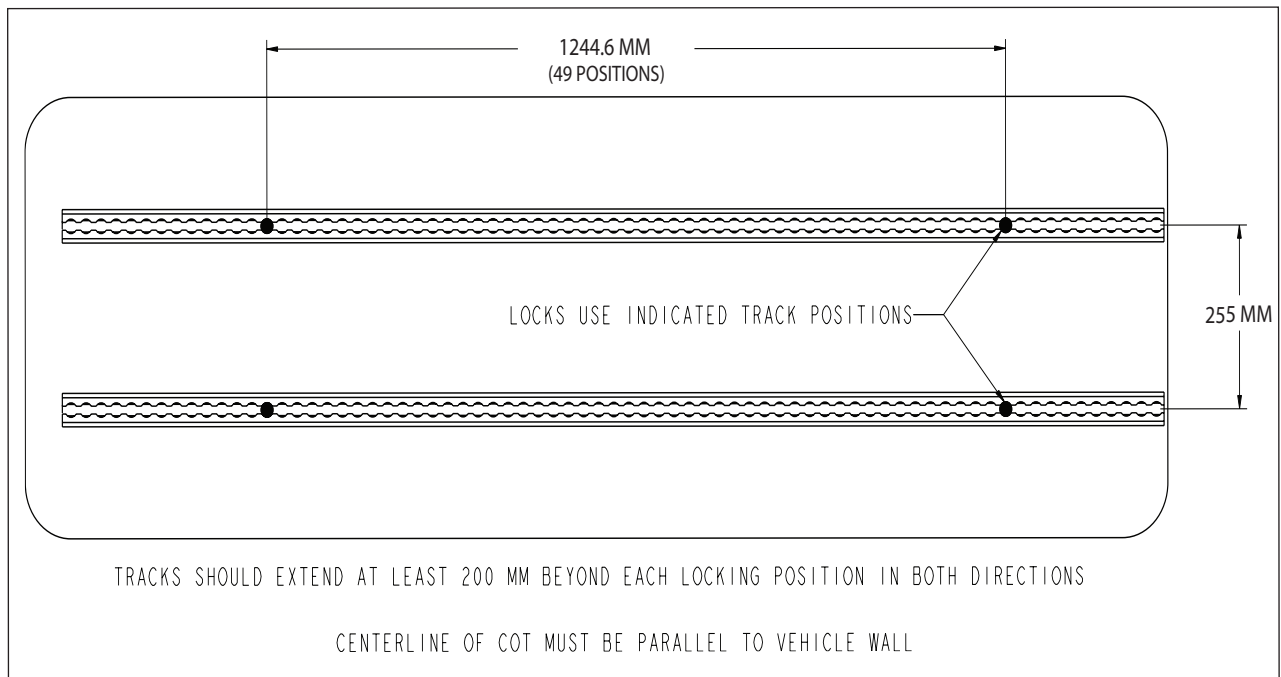
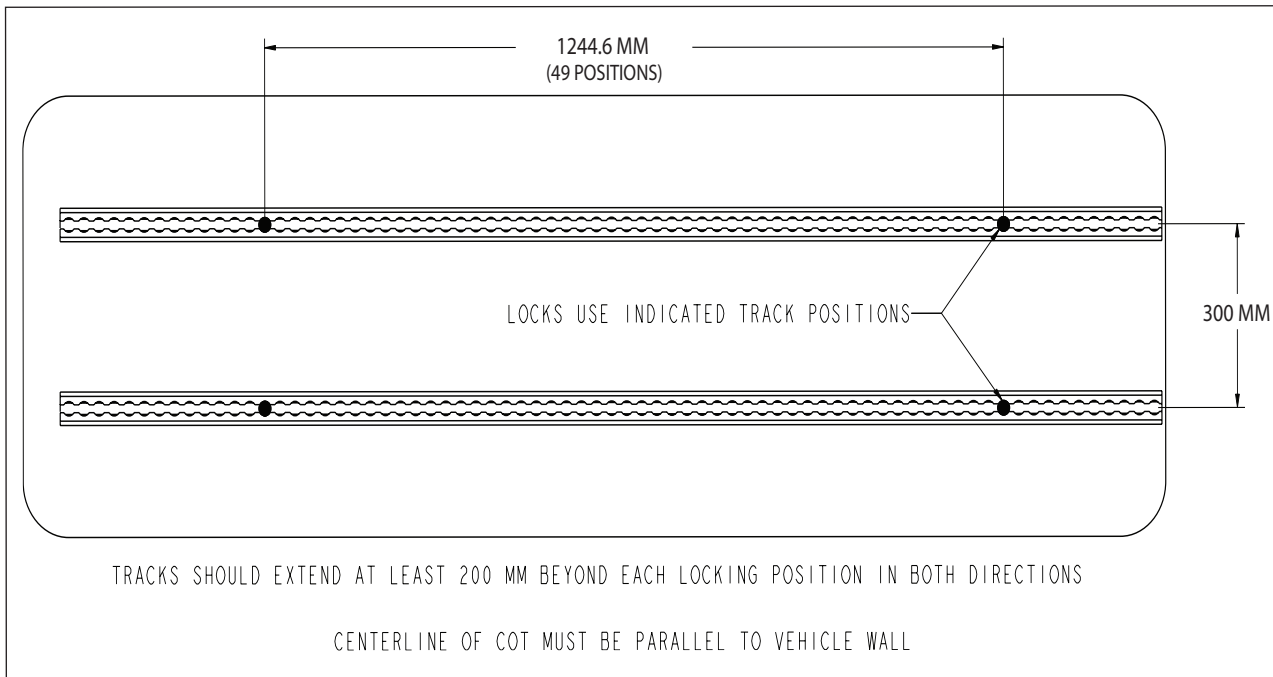

Figure 12: Floor Track Installation Locations
Figure 13: Floor Track Installation Locations
1. Identify the location for the foot end fastener and head end fastener from Figure 12 on page 17 for Model 6386 and Figure 13 on page 18 for Model 6387.
1. Identify the location for the foot end fastener and head end fastener from Figure 12 on page 17 for Model 6388 and Figure 13 on page 18 for Model 6389.
2. Using the dimensions shown in Figure 12, identify where the floor tracks will attach.
2. Using the dimensions shown in Figure 13, identify where the floor tracks will attach.